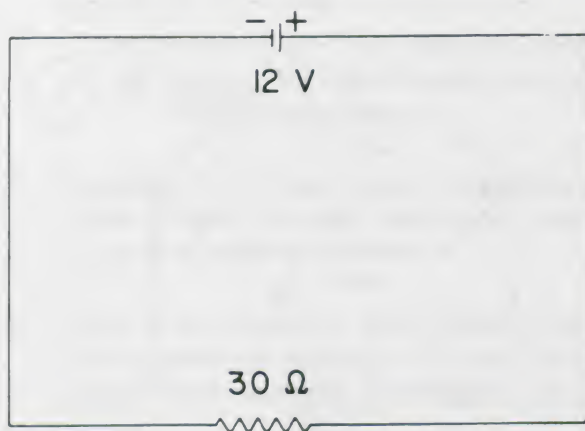

Figure 31.
**Example 4.** Determine the current in the circuit shown in Figure 31.